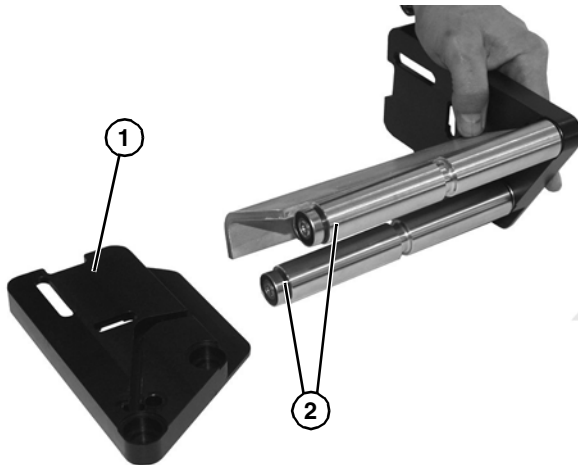

Figure 69
- Slide off end plate (Figure 69, item 1).
- Remove idler roller bearing assemblies (Figure 69, item 2) from each end plate.